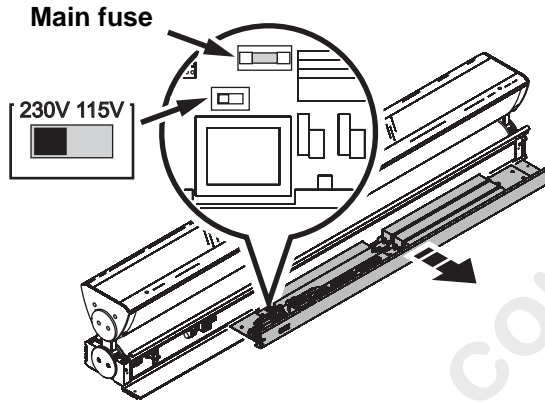

Figure 16: Main fuse
4. See Figure 16. Replace the main fuse on the PCB with one of the same type and rating.
See Figure 16. The voltage switch on the PCB is factory-set to match 100-120 or 200-240 V nominal AC power at 50 or 60 Hz.